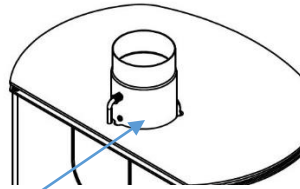

Figure 15
- Position the regulator handle on the flue extension as shown in figure 15 (along the flue extension).